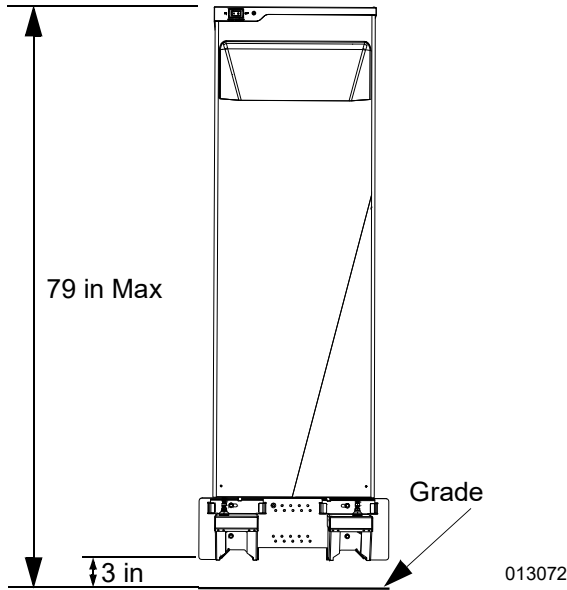

Figure 4-2. Foot Bracket Install Height
- See Figure 4-2. Install the foot bracket bottom edge to a minimum height of 3 in (7.62 cm) and a maximum height of 6 in (15.24 cm) to keep the Battery Disconnect Switch at a maximum height of 79 in (200.66 cm) above grade.